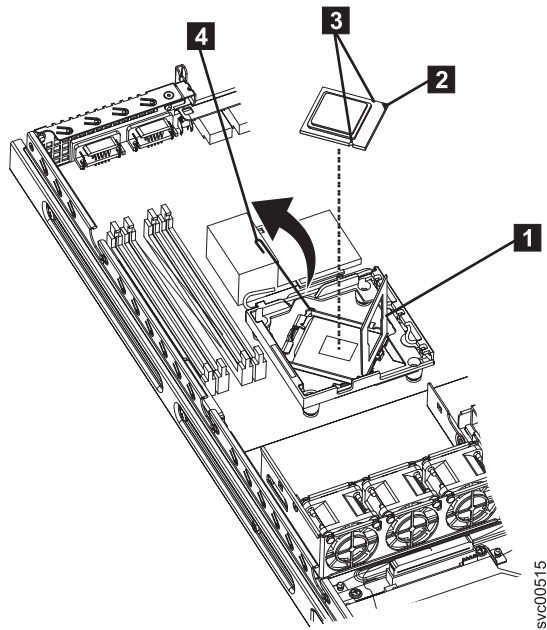

Figure 264. SAN Volume Controller 2145-8A4 microprocessor
1. Make sure that the microprocessor bracket frame **1** and release latch **4**, shown in Figure 264 on page 279, are both fully open.
2. Align the microprocessor with the socket as shown in Figure 264. (Note the alignment mark **2** and the position of the notches **3**.)